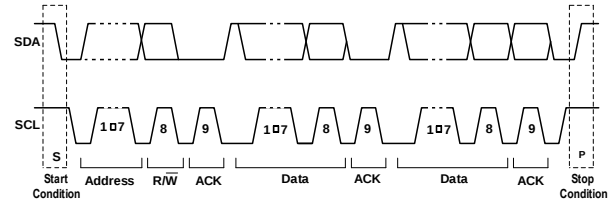

Figure 10: Complete Data Transfer
Figure 10 shows the data transfer format. After the start (S) condition, a slave address is sent. This address is 7 bits long followed by an eighth bit, which is a data direction bit (R/W). A 0 indicates a transmission (write), while a 1 indicates a request for data (read). A data transfer is always terminated by a stop (P) condition.
condition generated by the master. However, if a master must continue to communicate on the bus, it can generate a repeated start (Sr) condition and address another slave without first generating a stop condition (see Figure 10).